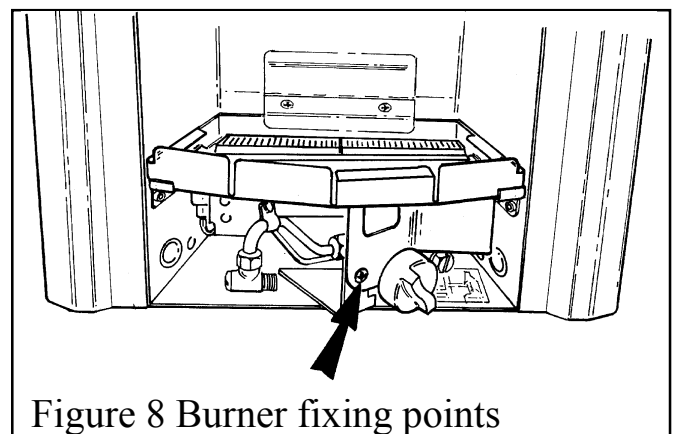

Figure 8 Burner fixing points
- The burner assembly is retained by one screw set in the front leg - See Figure 8. Remove the screw and carefully remove the burner assembly by lifting and sliding forward from the firebox. The burner is produced from a soft ceramic material and should be handled carefully.